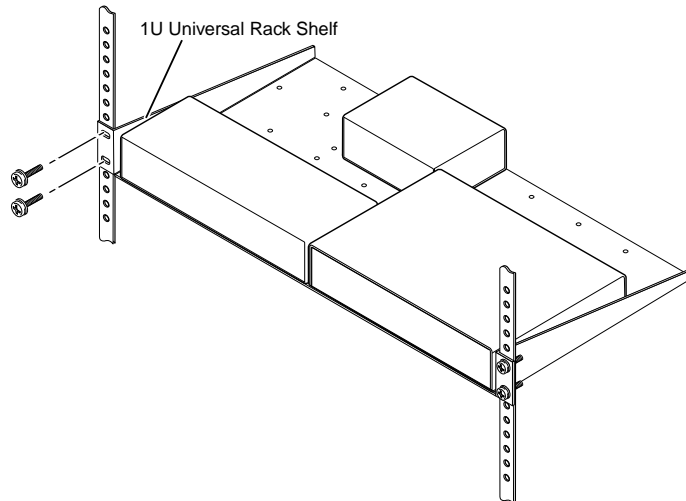

Figure 3. Mounting the switcher on a universal rack shelf
- RSU 129 9.5-inch deep 1U universal rack shelf kit (part #60-190-01) (figure 3)
2. Mount the switcher on the rack shelf, using two 4-40 x 3/16" screws in opposite (diagonal) corners to secure it to the shelf (figure 3).